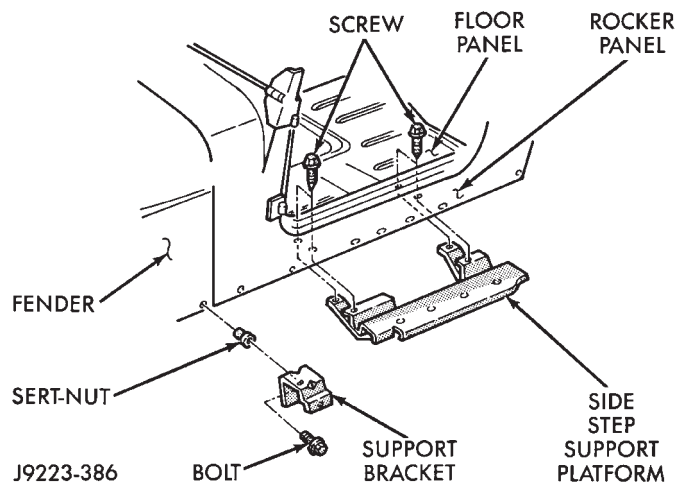

Fig. 40 Side Step Support Platform and Support Bracket
(4) If necessary, remove the retaining bolt/screws and the support bracket and side step support platform from the cowl side panel/rocker panel (Fig. 40).
panel (Fig. 40). Install and tighten the support bracket retaining bolt to 11 N·m (96 in-lbs) torque. Install and tighten the support platform retaining screws to 41 N·m (30 ft-lbs) torque.